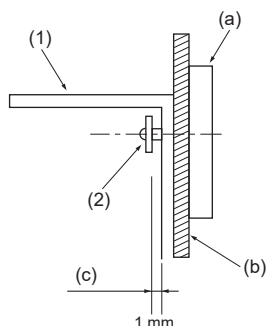

Fig. 3-4
- First, mount the bracket on the wall and then tighten the screw so that the bracket can slide up and down. (Fig. 3-4)
(1) Tip-over prevention bracket
(2) Tapping screw